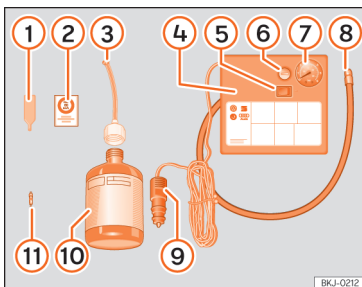

Fig. 228 Standard display: contents of the anti-puncture kit.
The anti-puncture kit is located underneath the floor covering in the luggage compartment. Includes the following components >>> **Fig. 228**:
- Unscrew the tyre valve cap and insert. Use the device >>> **Fig. 228** ① to remove the valve cap. Place it on a clean surface.
- Shake the tyre sealant bottle vigorously >>> **Fig. 228** ⑩.
- Screw the tyre inflation hose >>> **Fig. 228** ③ into the tyre sealant bottle. The bottle's seal will break automatically.
- Remove the filler cap >>> **Fig. 228** ③ and screw the open end of the tube into the tyre valve.
- Replace the howitzer with the device >>> **Fig. 228** ① onto the tyre valve.
- Screw the tyre inflation tube of the compressor >>> **Fig. 228** ⑧ on the tyre valve.
- Check that the air evacuation screw is closed >>> **Fig. 228** ⑥.
- Attach the connector >>> **Fig. 228** ⑨ to the vehicle's 12 volt power outlet >>> **page 212**.
- Switch on the air compressor with ON/OFF switch >>> **Fig. 228** ⑤.
- Attach the sticker >>> Fig. 228 (2) to the instrument panel display, within the driver's field of vision.
Screw in the inflator tube >>> Fig. 228 (8) again and check the pressure on the gauge (7).